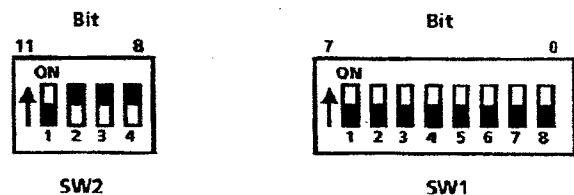

Figure 4.1 Address Switch Arrangement
The twelve switches are located at the bottom rear corner of the module and are accessible without removing the modules protective sidecover. The twelve switches are in a group of eight, bits 0-7, and a group of four, bits 8-11. When a switch is in the "ON" position, that bit is a logical "1". Figure 4.1 shows the layout of the address switches.
In Figure 4.1 the address switches for bits 8 (256), 9 (512), and 10 (1024) are set to the logical "1" position giving a module base address of 1792 (256 + 512 + 1024).